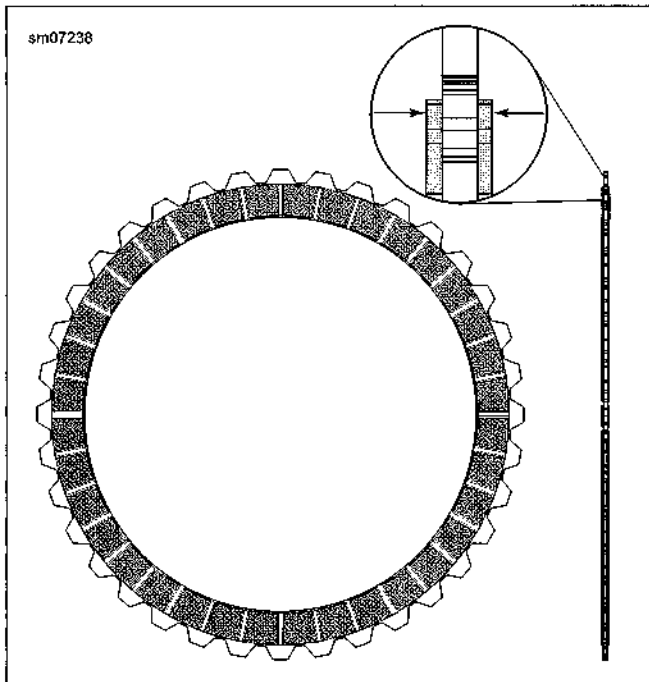

Figure 5-12. Friction Plate Thickness
- b. Inspect all friction plates (10) and the spring plate (8) for worn lining surfaces or checked or chipped linings.
- c. Inspect each steel plate (9) for grooves.
- f. See Figure 5-12. Measure thickness of each friction plate. If any one of plates is less than 0.0795 in (2.02 mm), replace entire clutch pack.